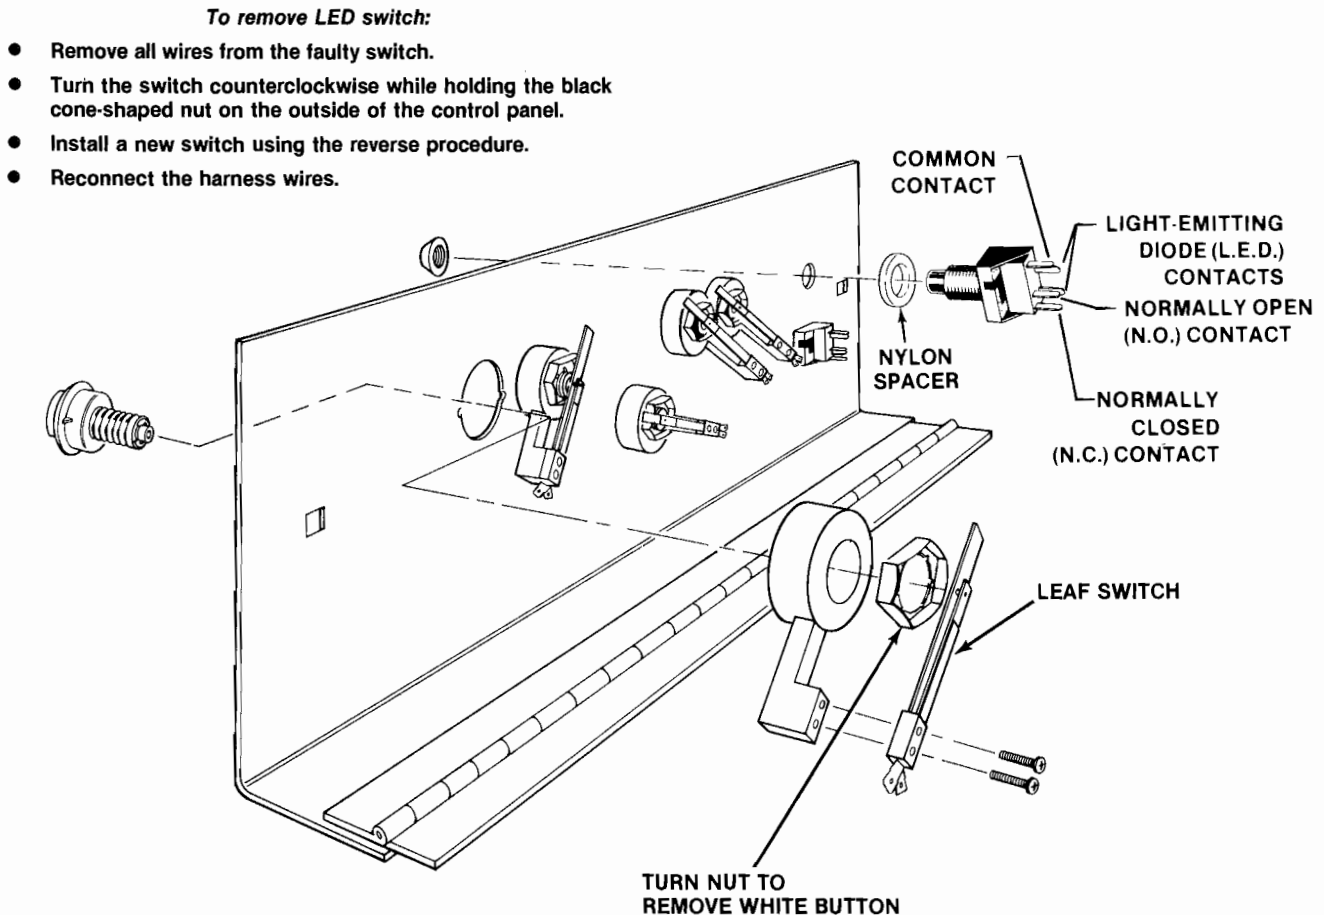

Figure 8 Opening the Control Panel and Replacing Switches
Reach through the opening and remove both sets of carriage bolts, wing nuts, split lock washers, and flat washers, located on the underside of the control panel (see Figure 8). Lift up on the control panel and swing it towards you.
To replace any switch, remove both of its screws with a Phillips-head screwdriver—see Figure 8.
The light-emitting diode (LED) switches on the control panel have a very low failure rate. In case a switch should ever be suspect, first test it per the description that follows. To replace the switch, refer to Figure 8.
3. Connect multimeter leads to appropriate LED switch contacts (see Figure 8 for designation of switch contacts and meter lead placement).